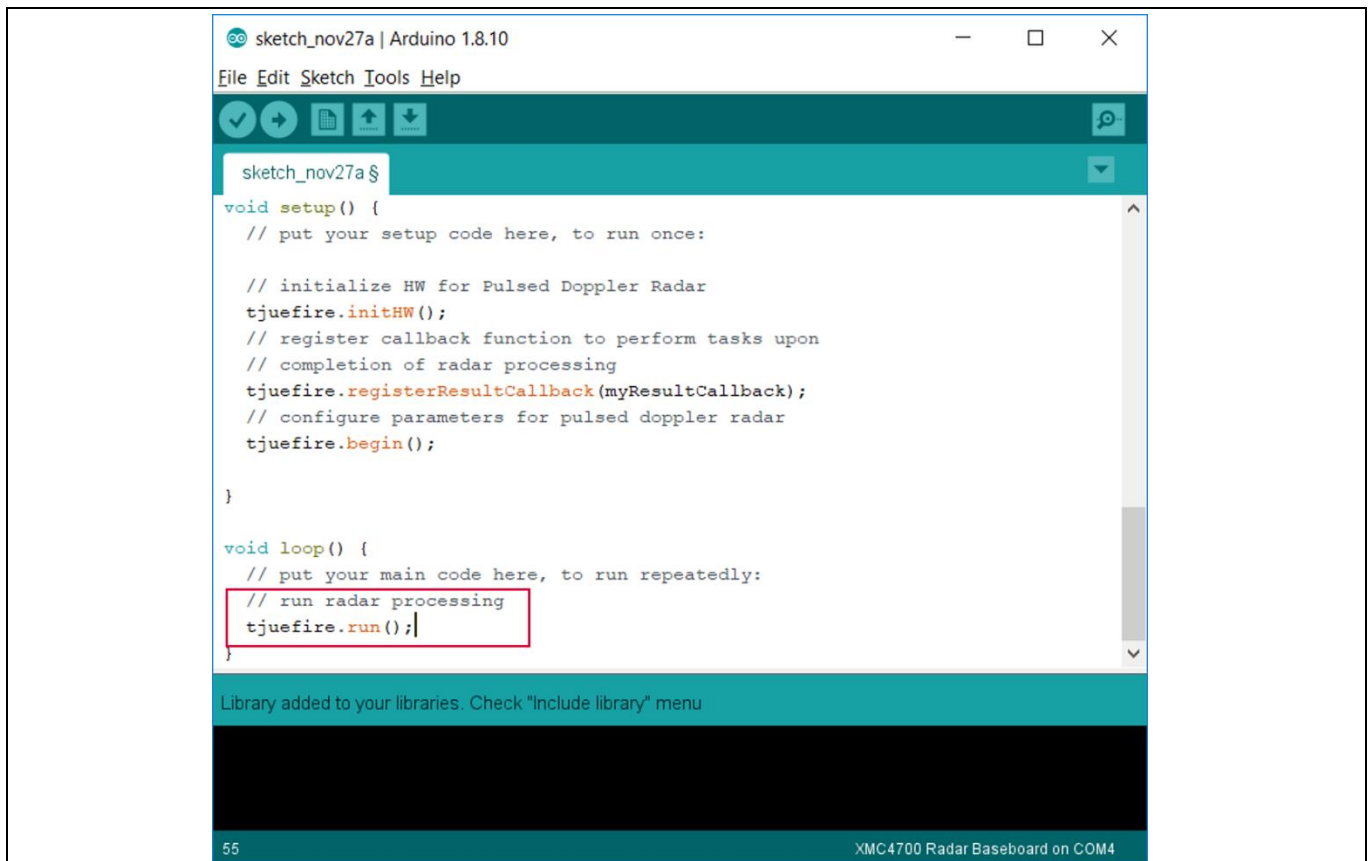

Figure 15 Call run() in main loop()
5. Finally, add the run() API in the loop() routine to run the radar processing (Figure 15).